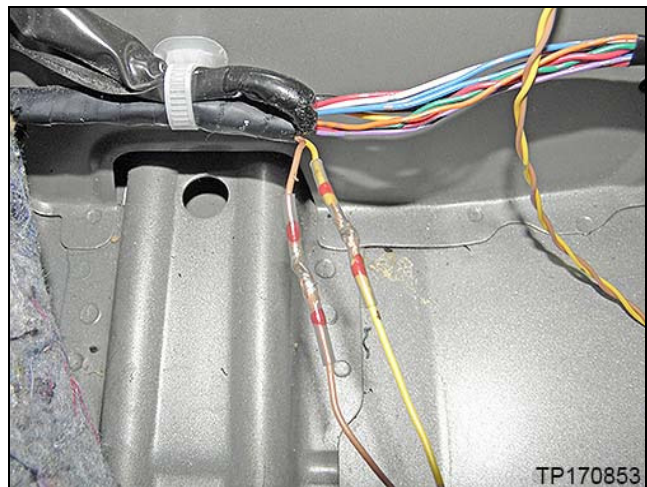

Figure 36
- Figure 36 shown with solder connections completed on passenger's side.